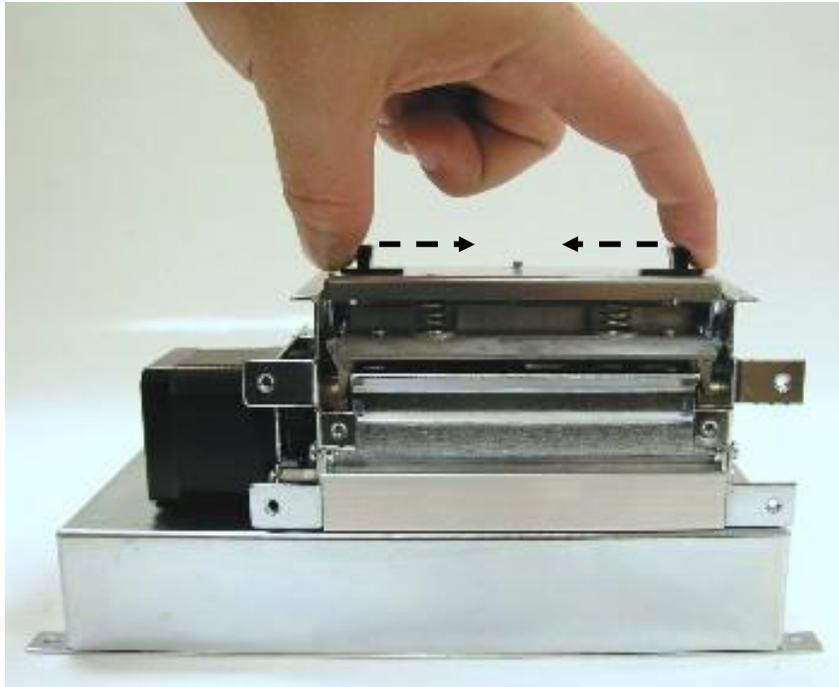

Figure 16 Unlatching of the Print head (326M)
5. Using both hands, slowly pull the card out of the printer at a 45° down angle (See Figure 16).